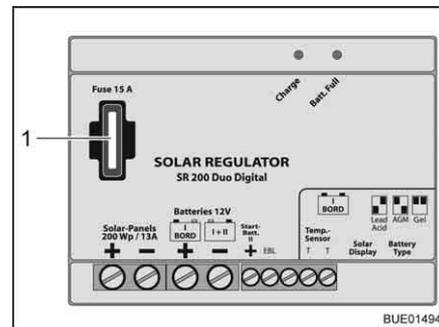

Fig. 175 Solar charge regulator fuse 200 W
- Replace flat fuse 15 A/blue (Fig. 175,1).